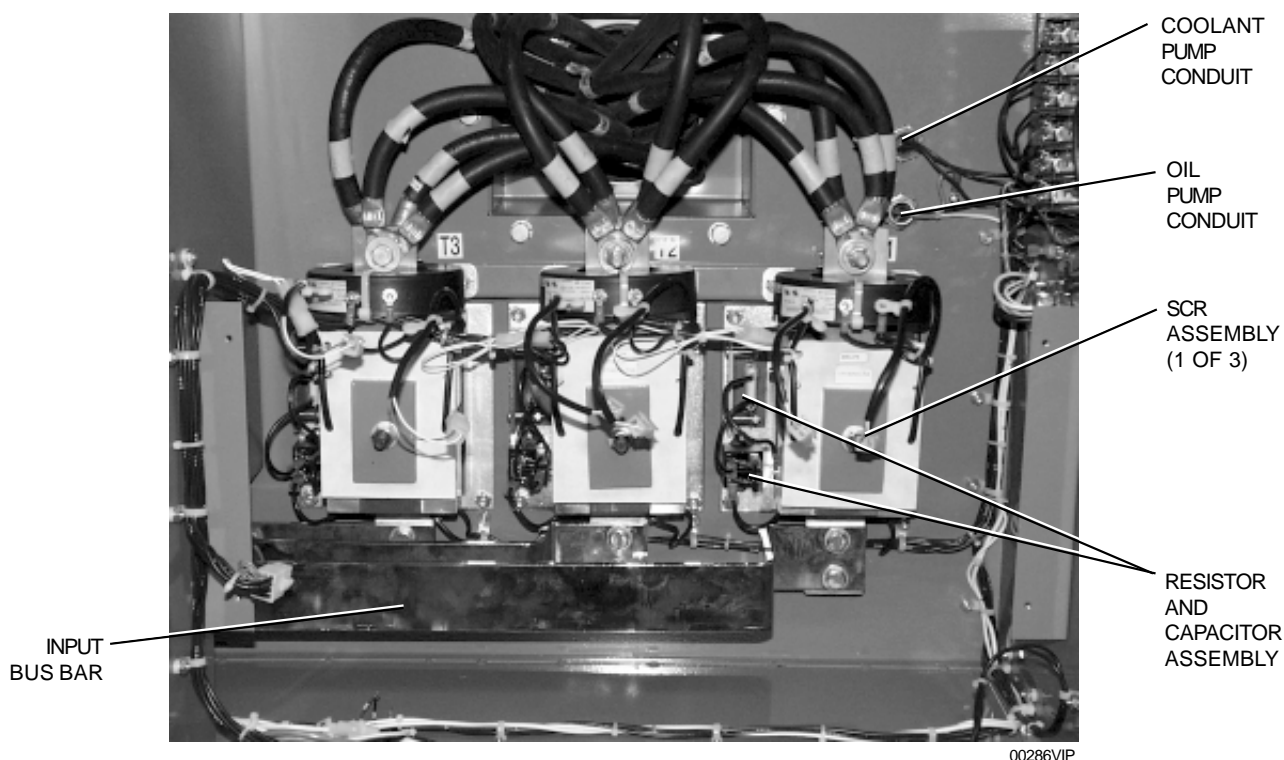

FIG. 9 – LIQUID COOLED SOLID STATE STARTER – POWER COMPONENTS
- Remove resistor and capacitor assembly from defective SCR assembly. Save these parts; they will be needed for the new SCR assembly. (Refer to Fig. 9.)